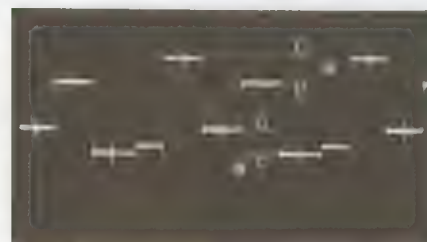

Fig. 5-69.
9. Turn RV2 on the BA board for a flat output waveform. (See Fig. 5-69.)